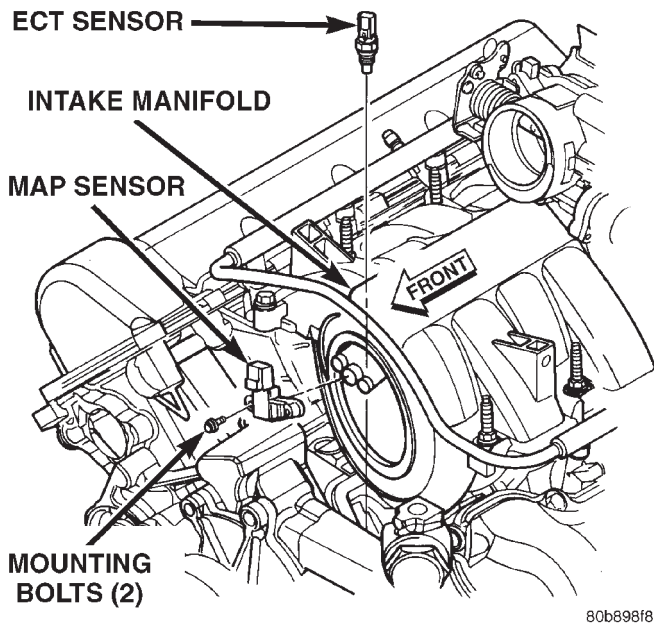

Fig. 13 MAP and ECT Sensor Locations—4.7L V-8 Engine
(19) 4.7L Engine: Verify MAP and Engine Coolant Temperature (ECT) sensor electrical connectors are firmly connected to sensors (Fig. 13).
(20) Verify fuel injector wire harness connectors are firmly connected to injectors in correct order. Each harness connector is numerically tagged with injector number (INJ 1, INJ 2 etc.) of its corresponding fuel injector and cylinder number.